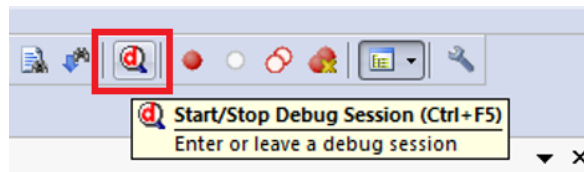

Figure 1.6: Keil IDE: Start/Stop Debug Session Button
(see Figure 1.6).
7. Click the Start/Stop Debug Session button or press Ctrl-F5 to exit from the simulator (see Figure 1.6).
- Click the Start/Stop Debug Session button or press Ctrl-F5 to enter a debug session (see Figure 1.6). This target uses the hardware ULINK2/ME Cortex Debugger. Note you should not click the Download button to load the code to the board. When you start a debug session, the debugger initialization file (i.e. `RAM.ini`) will execute the LOAD command to load the code to the board.
7. Click the Start/Stop Debug Session button or press Ctrl-F5 to exit from the debug session (see Figure 1.6).